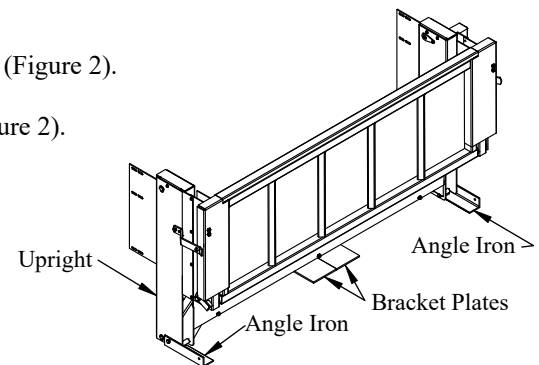

Figure 2: Complete liftgate (**G2** shown).
4. Unbolt and Save the two (2) angle irons attached to the liftgate uprights- **G2only** (Figure 2).
5. Remove and Save the two (2) bracket plates attached to the liftgate- **G2only** (Figure 2).